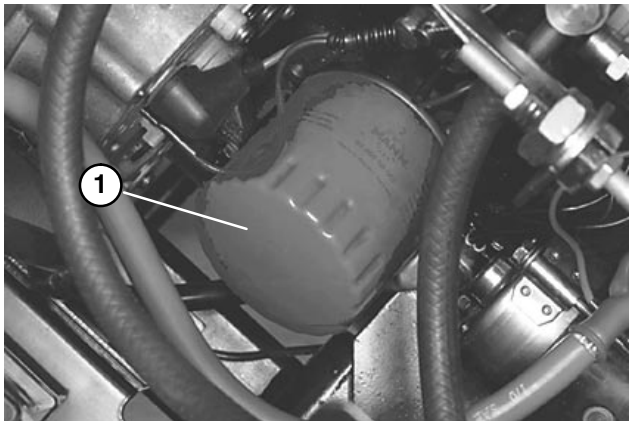

Figure 29
2. Remove oil filter (Fig. 29). Apply a light coat of clean oil to the new filter seal before screwing it on. **DO NOT OVER-TIGHTEN.**